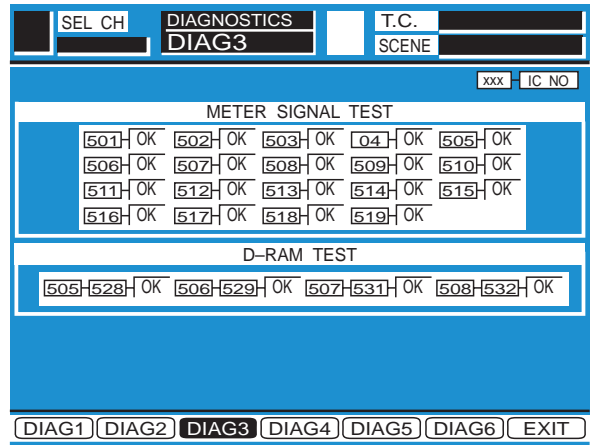

Fig. 5-3
- Press the Enter Key, the Diagnostic Menu 3 as shown in Fig. 5-3 is displayed.
- Referring to Fig. 5-3, select the D-RAM TEST Item by either UP or DOWN Cursor.